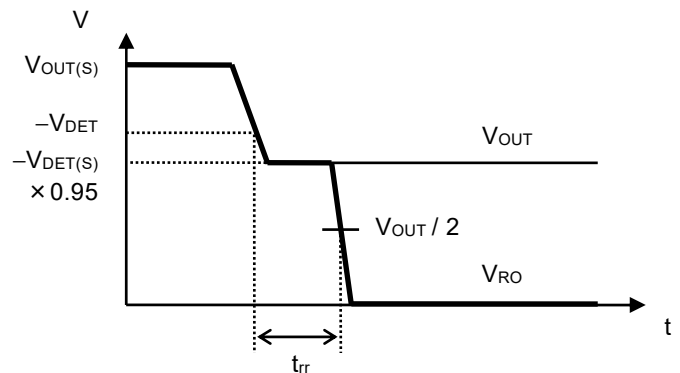

Figure 6 Reset Reaction Time
*4. The time from when V_{OUT} falls below -V_{DET} to when the RO pin output inverts (Refer to **Figure 6**).